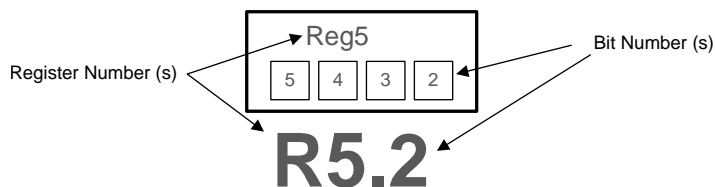

Figure 24. LMK61E2 Register Reference Format
Figure 24 shows the method that this document employs to refer to an individual register bit or a grouping of register bits. If a drawing or text references an individual bit the format is to specify the register number first and the bit number second. The LMK61E2 contains 38 registers that are 8 bits wide. The register addresses and the bit positions both begin with the number zero (0). A period separates the register address and bit address. The first bit in the register file is address 'R0.0' meaning that it is located in Register 0 and is bit position 0. The last bit in the register file is address 'R31.7' referring to the 8th bit of register address 31 (the 32nd register in the device). Figure 24 also lists specific bit positions as a number contained within a box. A box with the register address encloses the group of boxes that represent the bits relevant to the specific device circuitry in context.